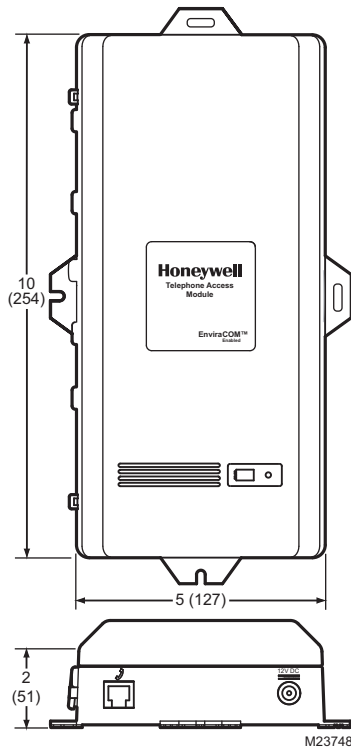

Fig. 2. W8735D Dimensions in inches (mm).
**Dimensions:** See Fig. 2 on page 4